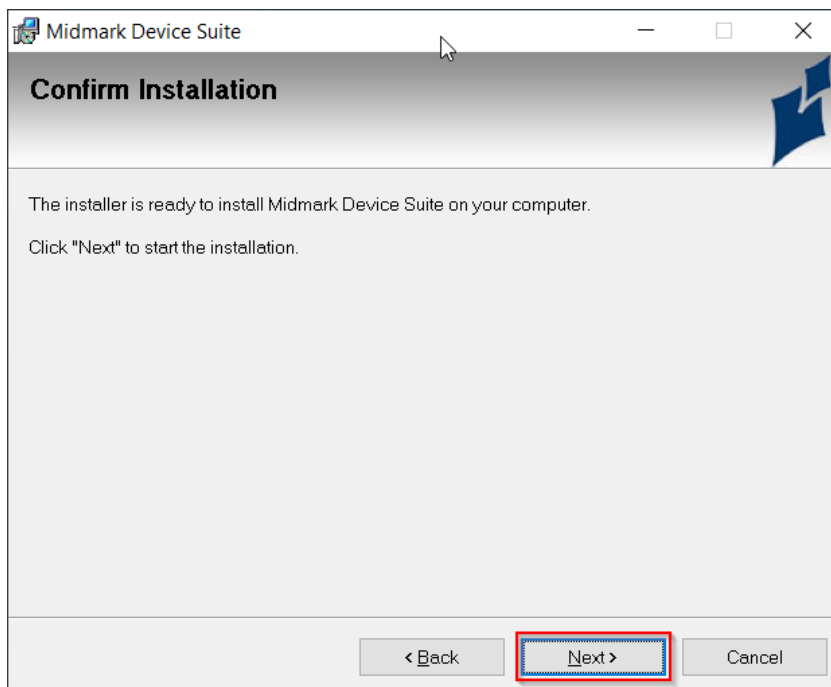

Figure 10. The “Confirm Installation” window.
- The “Confirm Installation” pop-up window appears. Click the “Next” button. See Figure 10 below.